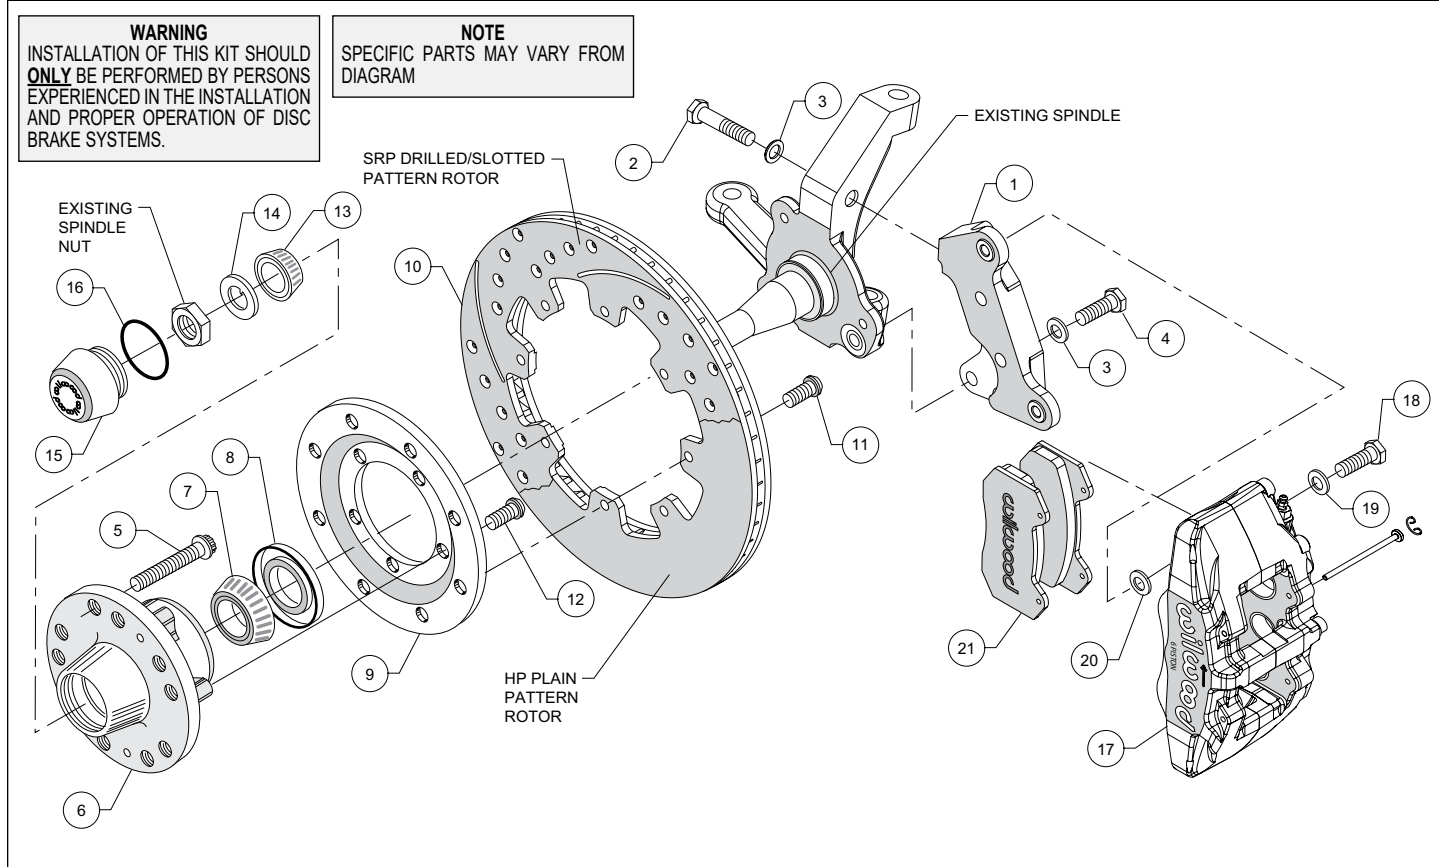

Figure 1. Typical Installation Configuration
NOTE: Numbers in parenthesis refer to the parts list and Figure 1 on the preceding pages.
•The caliper mounting bracket (1) should be installed first with clean, dry threads on the mounting bolts. Position the caliper mounting bracket (1) on the inboard side of the spindle. **NOTE:** Be sure the heads of the caliper bracket (1) insert nuts are facing outward toward the wheel. Slide bolt (2) through washer (3) and through the upper section of the spindle into the caliper mounting bracket (1). Slide bolt (4) from the backside through washer (3) and into the mounting boss on the spindle body (reference figure 1). Finger tighten only at this time. The bracket must tighten squarely against the inboard side of the spindle body. Inspect for interference from casting irregularities, machining ridges, burrs, etc. Later, after the caliper, pad, and rotor alignment has been checked, and any necessary shims have been put in place, the threads of the mounting bolts should be coated with red *Loctite*® 271 (see below).
•Install wheel studs (5) into the hub (6). Torque to 77 ft-lb. **NOTE:** There are two lug patterns of five holes each in the hub (5 x 4.50 and 5 x 4.75). Make sure of the correct hole pattern for the wheel application before installing the studs into the hub.
•Orient the rotor (10) and the rotor adapter (9) as shown in Figure 1. Attach the rotor to the adapter using bolts (11). Apply red *Loctite*®
•Mount the adapter/rotor assembly (9/10) to the hub (6) using bolts (12), as shown in Figure 1. Apply red *Loctite*® 271 to the bolt threads and torque to 45 ft-lb using a criss-cross pattern.
•Pack the large inner bearing cone (7) with high temperature disc brake bearing grease (available from your local auto parts store) and install into the backside of the hub (6).
•Install the grease seal (8) by pressing into the backside of the hub (6).
•Pack the small outer bearing cone (13) with high temperature disc brake bearing grease and install into front of hub (6). Slide the hub assembly (5, 6, 7, 8, 9 and 10) with outer bearing cone (13) onto the spindle. Secure using spindle washer (14), stock adjusting nut and nut locking device. Adjust bearings per Original Equipment Manufacturer (OEM) specifications.
•Install the o-ring (16) and the dust cap (15) onto the hub (6). Friction created by the o-ring (16) on the dust cap (15) keeps it from unscrewing on its own.
•**NOTE:** Please reference the caution statement at the beginning of the assembly instructions. This kit contains distinct right and left hand calipers that must be mounted in a specific direction, as described below. Mount the caliper (17) onto the caliper bracket (1) by positioning the mounting tabs on the backside of the bracket. Slide bolt (18) through washer (19) from the backside. Place two shims (20)
- Remove the two pad retaining pins from the caliper (17) by carefully popping out the pin retaining clips and sliding out the pins. Insert the brake pads (21) into the caliper from the bottom, Figure 1, with the friction material facing the rotor. Secure the brake pads in place with the pad retaining pins and clips. Reinstall the caliper onto the caliper mounting bracket. Apply red *Loctite® 271* to bolt threads (18), and torque to 40 ft-lb.